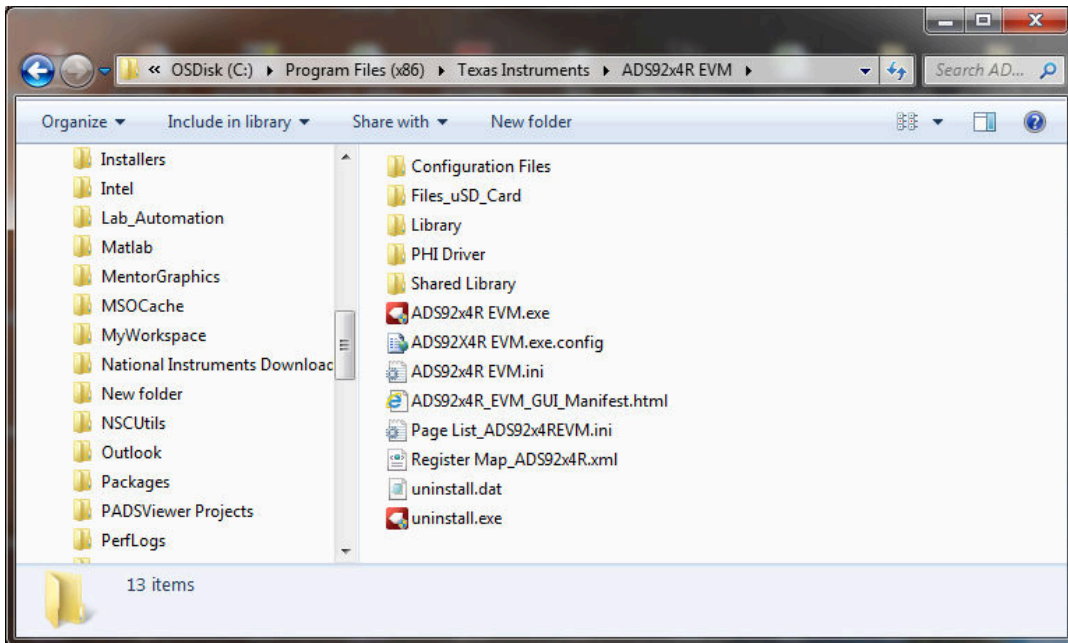

Figure 6-2. Launch the EVM GUI Software
3. Double-click on the *ADS92x4R EVM.exe*, file to launch the ADS9224REVM-PDK GUI software. Figure 6-2 shows the ADS9224REVM software folder.